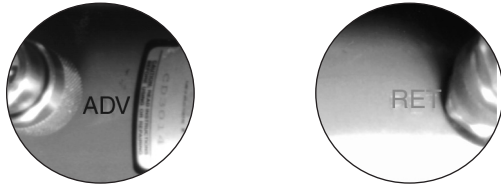

Figure 5: Hose Installation
5. Install the two hydraulic hoses. Apply one wrap of teflon tape to the threads on the end of the hose. Remove the pipe plugs from the pump valve, one port is marked “ADV” the other is marked “RET”. Install a hose in each port. Figure 5.